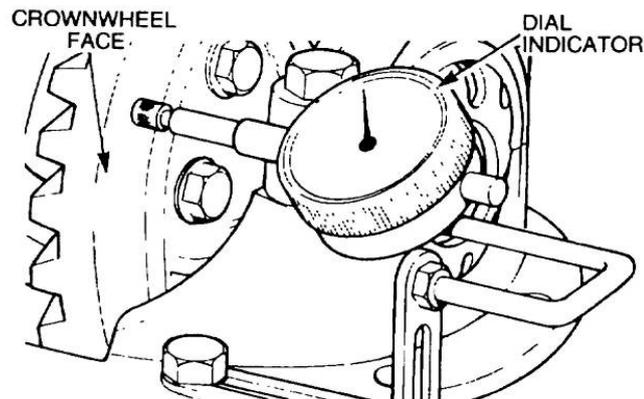

Figure 237 Measuring the Differential Run-out
- f. Position a dial indicator on the axle casing with the stylus in contact with the rear face of the crownwheel (Figure 237), rotate the differential and check the total run-out. The run-out must not exceed 0.05 mm (0.002 in). If the run-out is excessive check the crownwheel-to-differential cage mating faces for dirt or signs of damage, and if necessary, select a new position for the stylus to contact until the amount of run-out is below that specified.